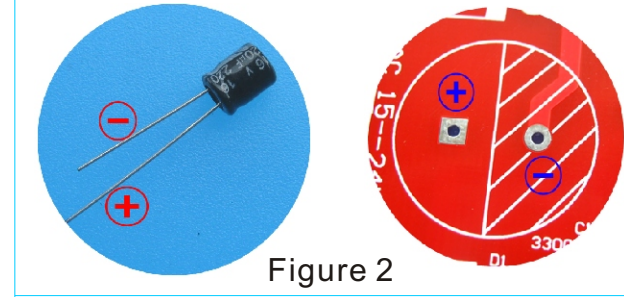

Figure 2
**11. Electrolytic capacitor (Figure 2)**